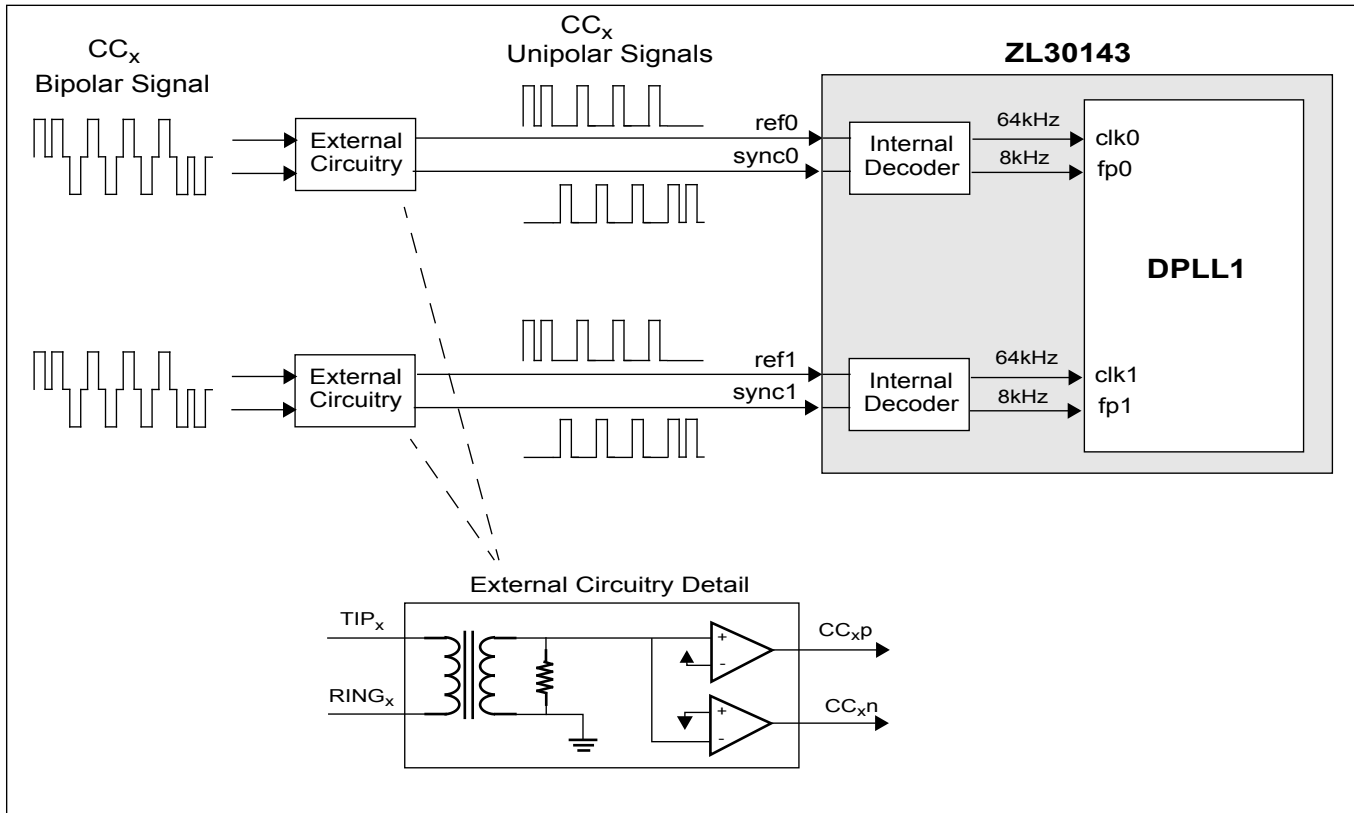

Figure 8 - External Circuit for Converting a Bipolar CC Signal into Two Unipolar Signals
The ZL30143 provides internal decoding logic necessary for extracting the 64 kHz reference clock and the 8 kHz frame pulse from the CC signal. It is capable of receiving two CC references using existing ref/sync input pins. One CC signal is received on the ref0/sync0 pins, and the other on the ref1/sync1 pins. Before interfacing the bipolar CC signal to the ref/sync pair, it must be separated into two unipolar signals using a simple external circuit as shown in Figure 8.